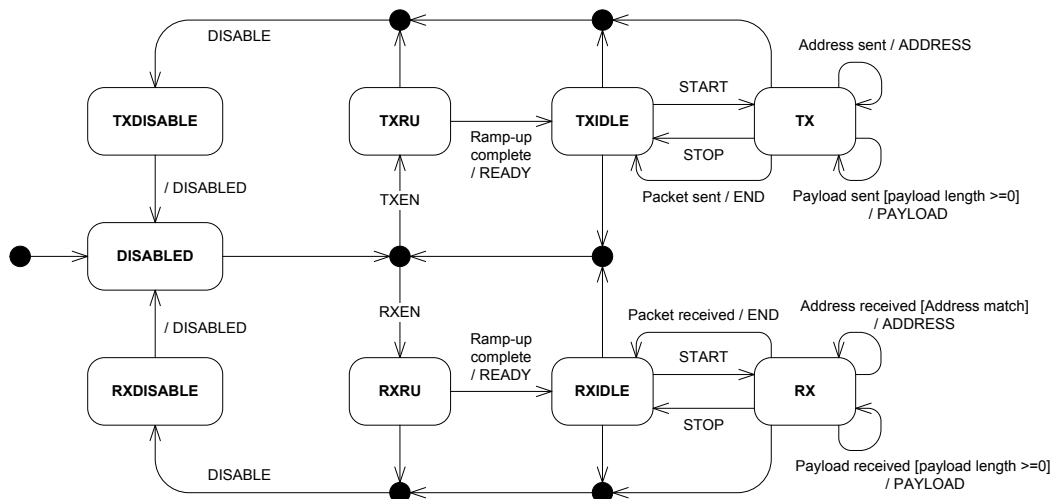
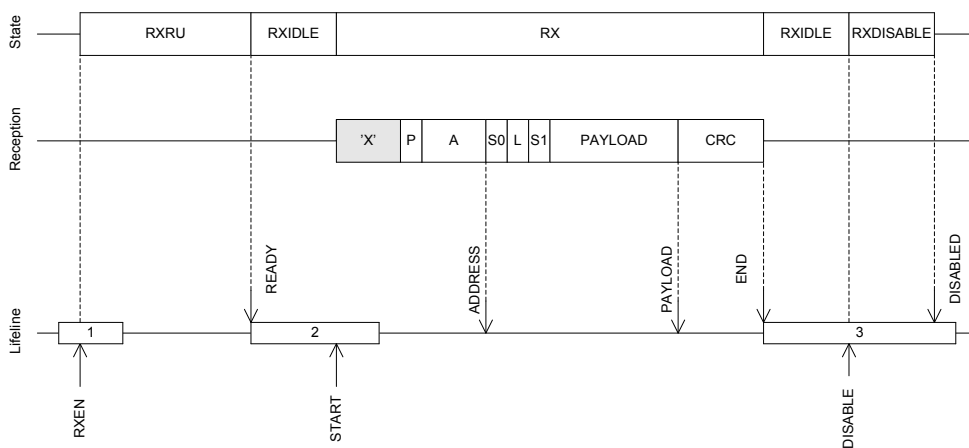

Figure 34: Radio states
Figure 38: Receive sequence
The RADIO can enter the states described the table below. An overview state diagram for the RADIO is illustrated in Figure 34: Radio states on page 209. This figure shows how the tasks and events relate to the RADIO's operation. The RADIO does not prevent a task from being triggered from the wrong state. If a task is triggered from the wrong state, for example if the RXEN task is triggered from the RXDISABLE state, this may lead to incorrect behaviour. As illustrated in Figure 34: Radio states on page 209, the PAYLOAD event is always generated even if the payload is zero.
See TXRU in Figure 34: Radio states on page 209 and Figure 35: Transmit sequence on page 210.
A TXRU ramp-up sequence is initiated when the TXEN task is triggered. After the radio has successfully ramped up it will generate the READY event indicating that a packet transmission can be initiate. A packet transmission is initiated by triggering the START task. As illustrated in Figure 34: Radio states on page 209 the START task can first be triggered after the RADIO has entered into the TXIDLE state.
See RXRU in Figure 34: Radio states on page 209 and Figure 38: Receive sequence on page 211.
An RXRU ramp-up sequence is initiated when the RXEN task is triggered. After the radio has successfully ramped up it will generate the READY event indicating that a packet reception can be initiated. A packet reception is initiated by triggering the START task. As illustrated in Figure 34: Radio states on page 209 the START task can, first be triggered after the RADIO has entered into the RXIDLE state.
Figure 38: Receive sequence on page 211 illustrates a single packet reception where the CPU manually triggers the different tasks needed to control the flow of the RADIO, i.e. no shortcuts are used. If shortcuts are not used, a certain amount of delay, caused by CPU execution, is expected between READY and START, and between END and DISABLE. As illustrated Figure 38: Receive sequence on page 211 the RADIO will be listening and possibly receiving undefined data, illustrated with an 'X', from START and until a packet with valid preamble (P) is received.
A slightly modified version of the receive sequence from Figure 38: Receive sequence on page 211 is illustrated in Figure 39: Receive sequence using shortcuts to avoid delays on page 212 where the RADIO is configured to use shortcuts between READY and START, and between END and DISABLE, which means that no delay is introduced.